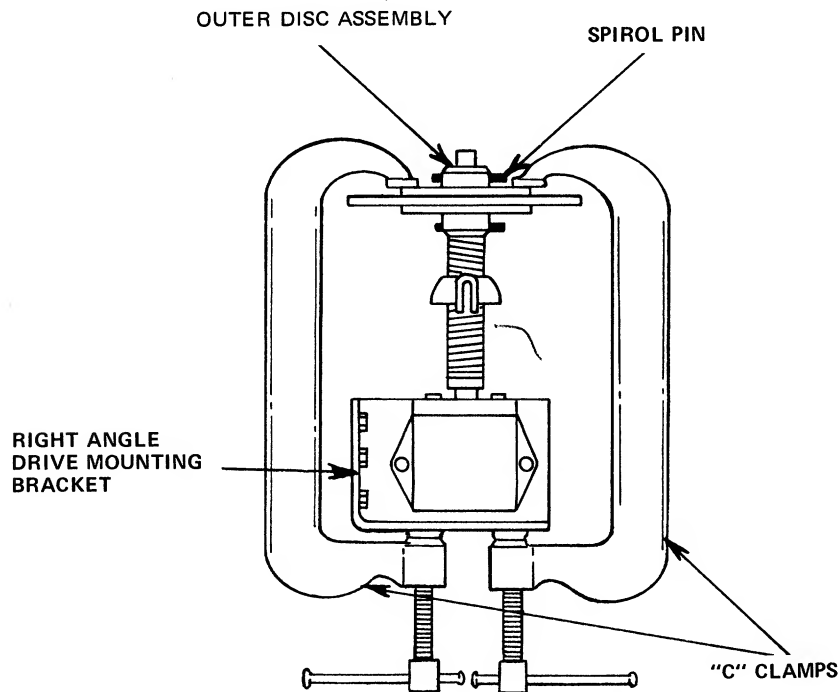

FIG. 18
7. Place "C" Clamps over Outer Disc Assembly and bottom of Right Angle Drive mounting plate as shown in Fig. 18.